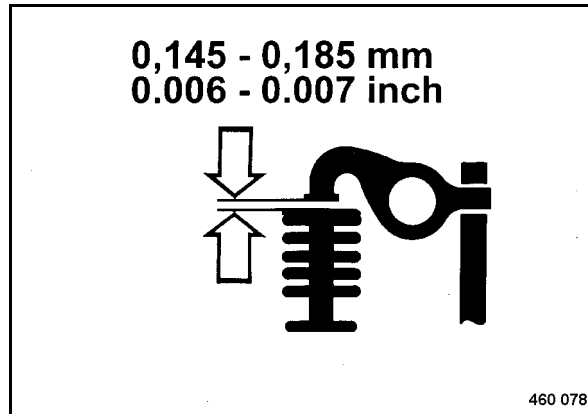

Fig. 121
- Check the gap between rocker arm and valve with a feeler gauge (Fig. 121).